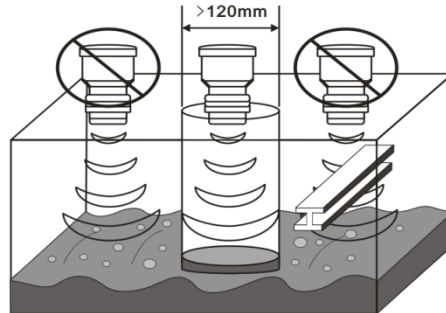

Figure 7
- Ultrasonic measurement will get the best effect for liquid with calm surface and no waves. If there are impurities, bubbles or large fluctuations on the surface of the liquid, a wave guide pipe should be installed. The diameter of wave guide pipe should be greater than 120mm, and there is no joint. As shown in **figure 7**.